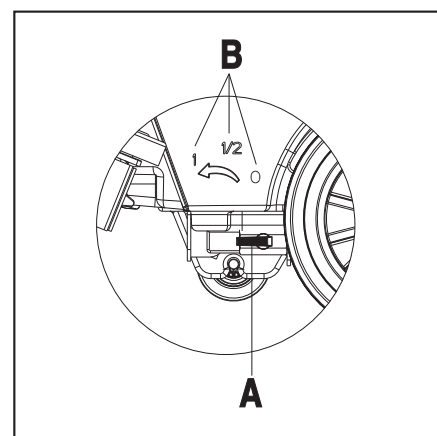

FIGURE 10
Regulating the ball valve handle (A, Figure 10) must be done under the condition when the power switch (41) is in the "Off" position.
- The volume of the water flow may be adjusted through the ball valve handle (A, Figure 10) according to the amount of water required for your scrubbing application.